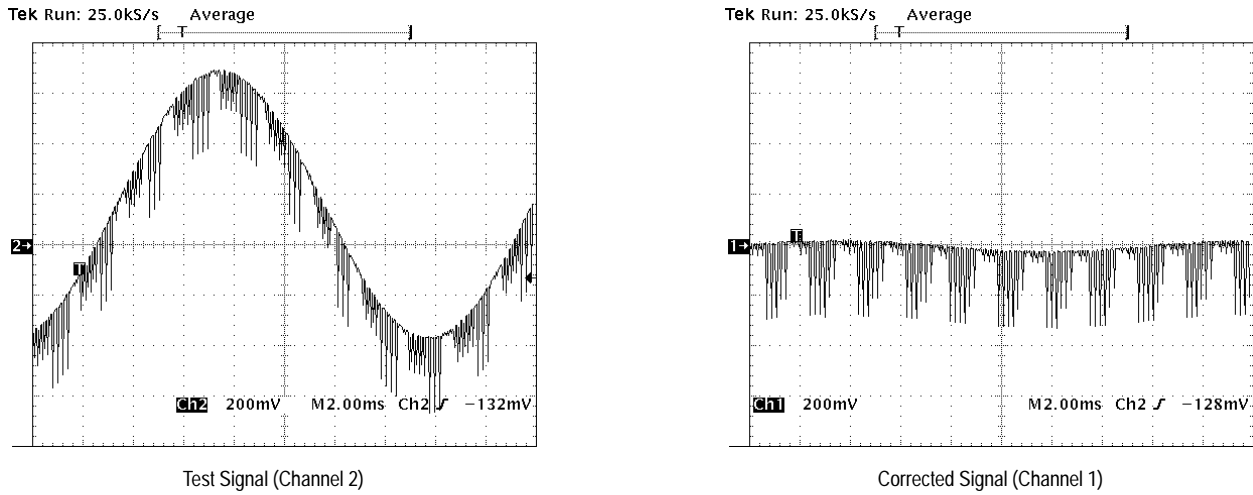

Figure 16: 60 Hz Rejection Check (Negative)
9. Verify that the amplitude of the 60 Hz sinewave component of the waveform is $\leq 70 mV_{p-p}$ (see Figure 16).